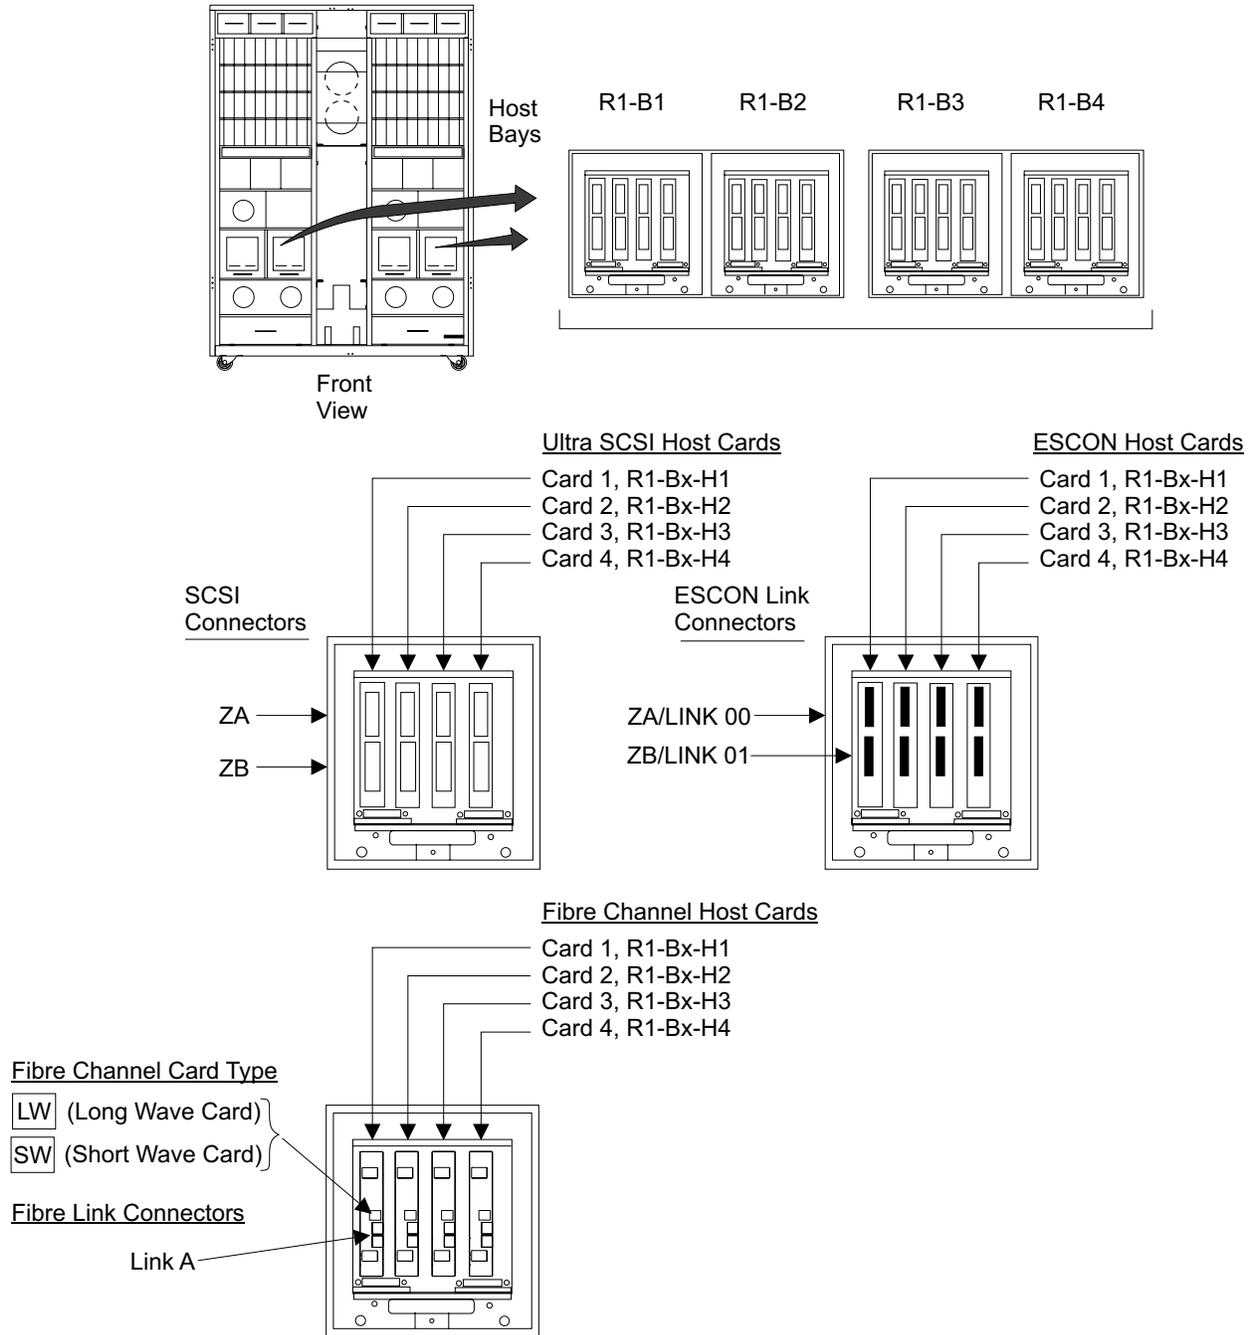

Figure 257. 2105 Model Exx/Fxx Host Bay Connector Locations (S008024r)
- ___ 3. Route and connect the host cables to the appropriate host bay [Figure 257]. Allow a loop of about 1 meter (3 feet) under the 2105 or floor, to allow the bays to be moved to their service position.